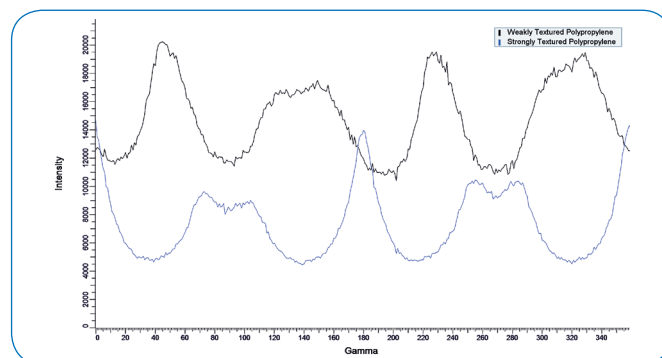

Figure 4: Polar Integration of the images shown in Figure 2.
Figure 4 shows a radial integration of the (110) polypropylene reflection, located at  $\sim 14^\circ 2\theta$ . By measuring the FWHM of the reflections in the radial integration, the degree of orientation can easily be quantified.